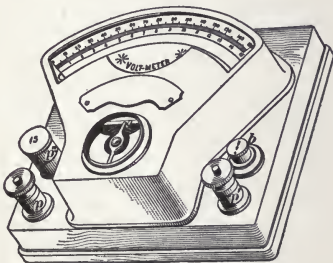

FIG. 46.
58. The Weston voltmeter, Fig. 46, is based upon the same principles as the Weston ammeter, and in appearance is quite similar to it. Its internal resistance, as in all voltmeters, is exceedingly large; the resistance of a Weston voltmeter for indicating up to 150 volts is about 19,000 ohms, while the resistance of a Weston ammeter, measuring strengths of currents up to 15 amperes, is only .0022 ohm. It will be seen that, owing to the great resistance, the current passing through a voltmeter is exceedingly small. For example, in the instrument described above, when indicating 150 volts, the current, by Ohm's law, is only $150 \div 19,000 = .0079$ ampere. All voltmeters are provided with at least two terminals, or binding posts, such as p and p' , Fig. 46. Connections are made by two separate conductors, called *voltmeter leads*, from these binding posts to two points between which the difference of potential, or the electromotive force, is to be measured.